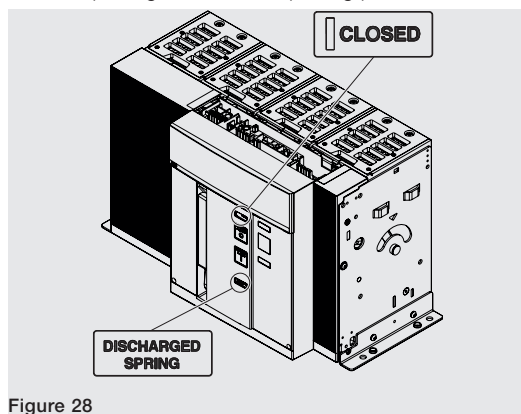

Figure 28
5. Check that the circuit-breaker is closed (open/closed indicator "I - CLOSED"), and check that the springs are discharged (spring signalling device "white - DISCHARGED SPRING") as indicated in Figure 28.